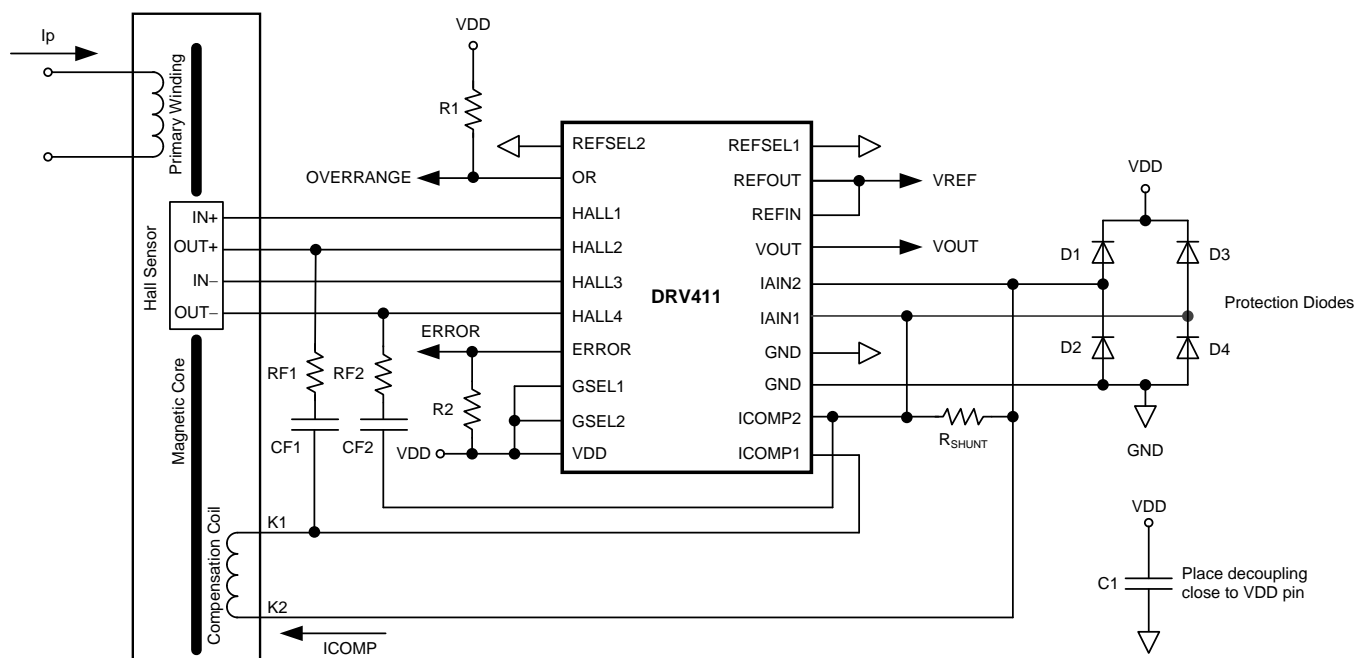

Figure 57. Application Example with External Gain and Compensation Setting (GSEL1 and GSEL2 set High), No Current Spinning
- Op-amp mode can be used in cases where modes Gain\_1 to Gain\_3 do not lead to an acceptable frequency response from the sensor module. In this mode, external compensation must be designed in to suit the sensor requirements (see Figure 57).
- DRV411 can be used with symmetrical GaAs Hall sensors. However, because of the inherently low sensitivity of GaAs sensors, the internal gain (compensation) may not be sufficient. In such cases, use op-amp mode to make the system stable with external compensation. In op-amp mode, the excitation circuit provides a constant 0.74 V across the HALL1 and HALL3 outputs, with HALL3 referred to GND. Connect the Hall outputs to the HALL2 and HALL4 pins (see Figure 57). For Hall sensors with large input impedances, do not exceed the common-mode input range of the op-amp inputs (see the Electrical Characteristics section).